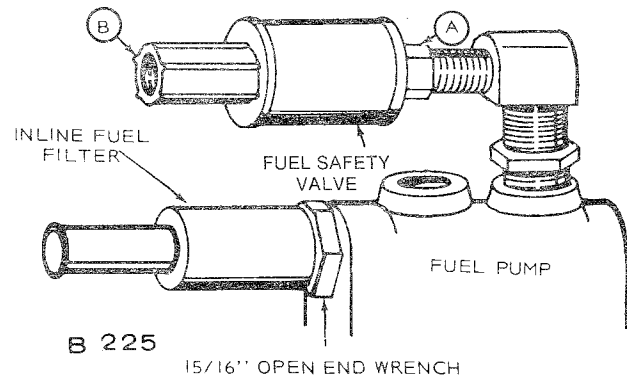

FIGURE 9. INLINE FUEL FILTER AND FUEL SAFETY VALVE
CAUTION When removing or replacing fuel safety valve always use wrench on hex (A), Figure 9. Do not exert turning force on B because valve will be damaged internally.